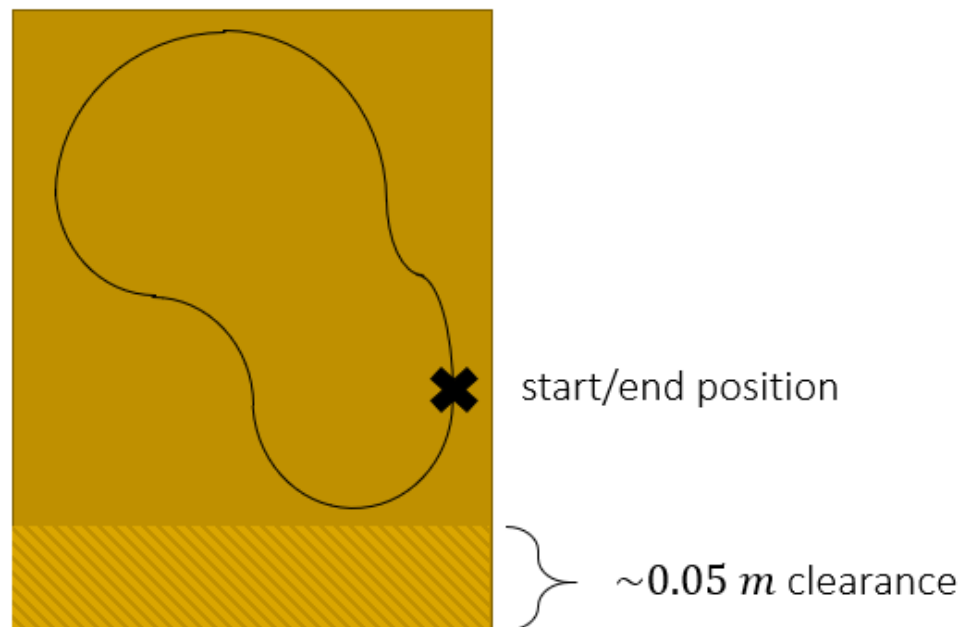

Figure 3: Example closed-loop trajectory on the flat surface with a 5cm clearance.
- Use a marker pen to draw a simple closed-loop trajectory on the cardboard. Keep a clearance of ~5 cm on the bottom end of the flat surface. An example is shown in Figure 3. Mark a single point as a starting/ending point.